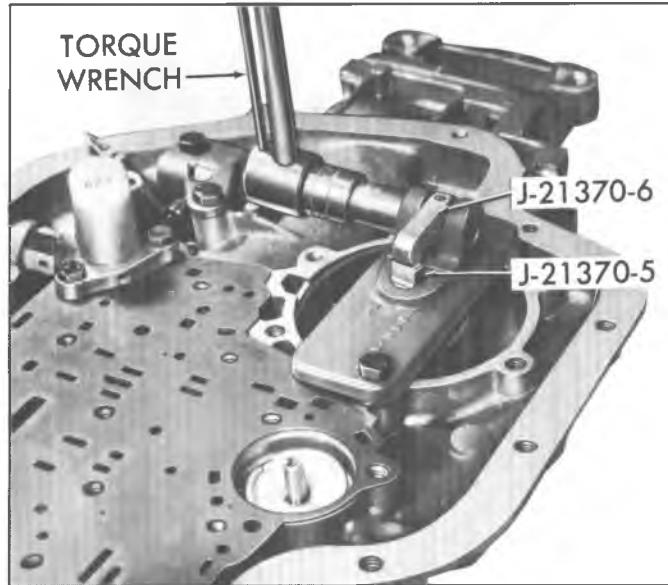

Fig. 7A-179C--Checking Rear Band Pin
1. Check rear servo band apply pin. (Fig. 7A-179C).